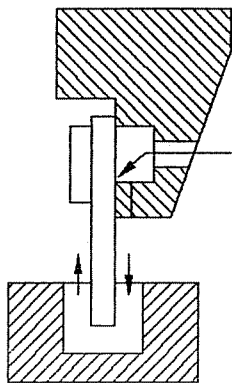

FIG. 4-17A
- A narrow slot is machined between the electrode and its support. The dielectric flows readily down one side of the electrode. (Fig. 4-17a)